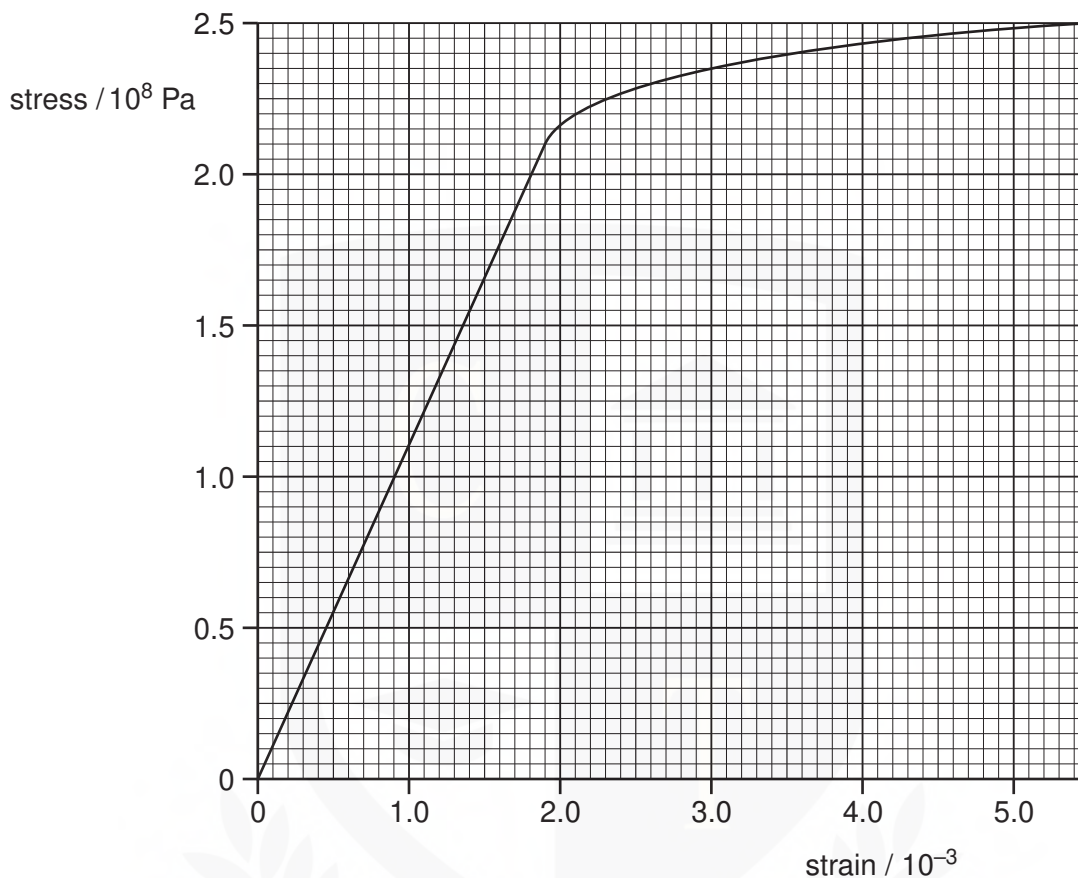

Fig. 5.1
- 6 (a) Tensile forces are applied to opposite ends of a copper rod so that the rod is stretched. The variation with stress of the strain of the rod is shown in Fig. 5.1.
- (i) Use Fig. 5.1 to determine the Young modulus of copper.
- (ii) On Fig. 5.1, sketch a line to show the variation with stress of the strain of the rod as the stress is reduced from 2.5×10^6 Pa to zero. No further calculations are expected. [1]